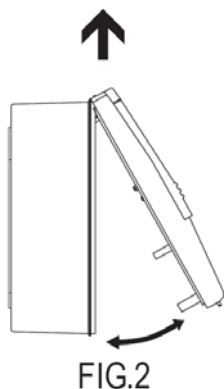

FIG.2
-Demontera fronten (Fig.2).
-Montera fronten (Fig.2).